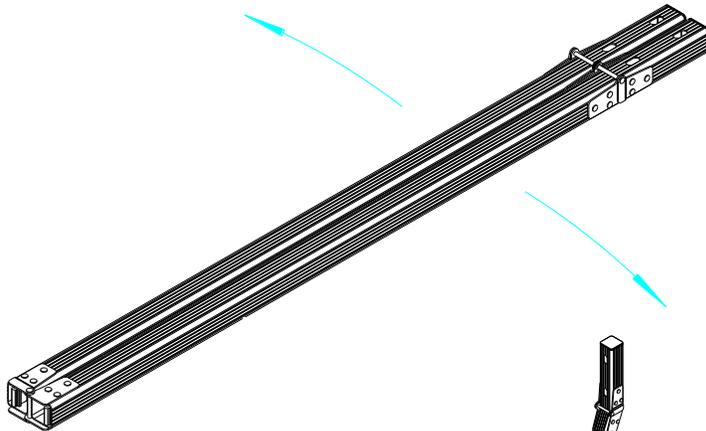

fig 10
1. Take the AT-Leg buttress out of the case and remove its wrappings. Unfold the buttress as shown in (fig 10).